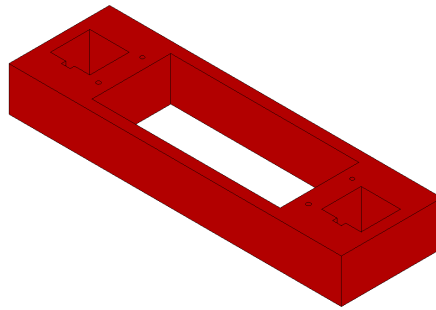

Figure 24: *Antennae mount* of the VNA holder assembly.
2. Take the *antennae mount* element. Notice the slots for two NEMA17 stepper motors. The stepper motors are secured in place using four (4) M3 screws. Secure the stepper motors with the screws and make sure that the motor cables are located in the right side. The *antennae mount* element is shown in figure 24.